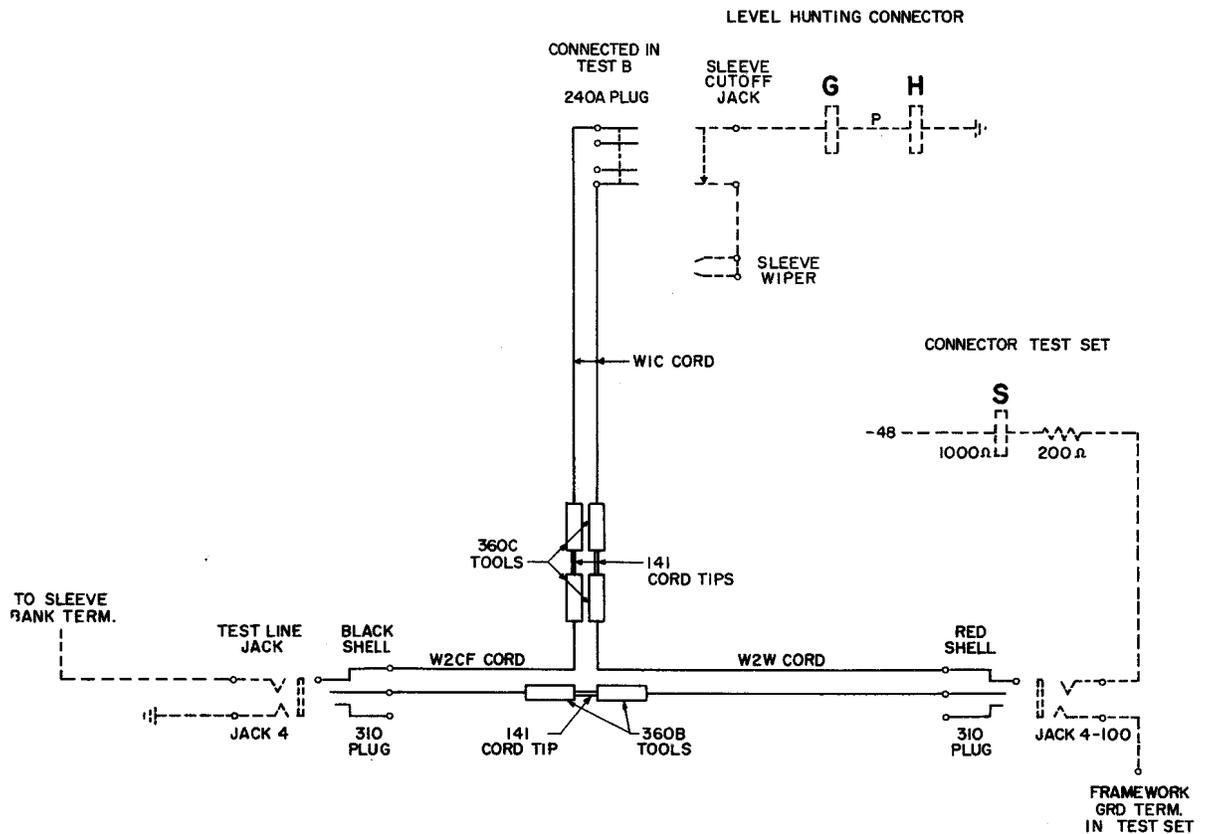

Fig. 1 - Test Cord
2.14 Special test cord, consisting of a W2W cord, equipped with a 310 plug, a 360B tool, and a 360C tool (2W17A cord); W2CF cord, equipped with a 310 plug (replace red shell with black shell), 360B tool, and a 360C tool (2W17D cord); two W1C cords, each 12 feet long (1W6A cords); two 360C tools; 240A plug and three 141 cord tips. Connect as shown in Fig. 1.
5c	If testing level hunting connectors — Connect test set jack 4 (or 4-100) to test line jack 4 on connector frame, using special test cord, Fig. 1.
13f	If testing 100-point level hunting connectors — Connect test set jack 4-100 to test line jack 4 on connector frame using special test cord, Fig. 1.
25	Insert 240A plug (stay cord to right) of special test cord, Fig. 1, into sleeve cut-off jack of connector. Note: If sleeve cutoff jack wiring is reversed, reverse 240A plug.